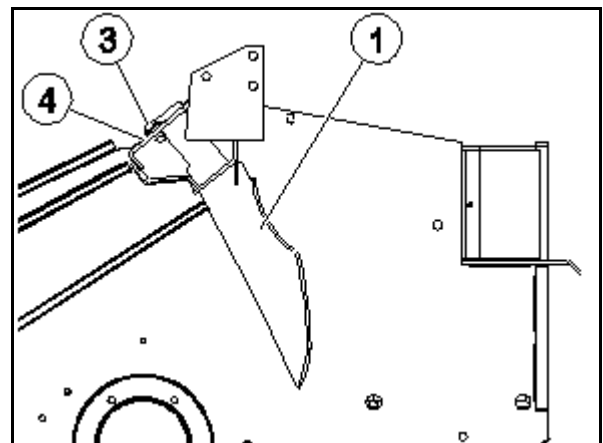

Fig. 142
2. Measure the distance between the strippers (3, Fig. 142/1) and the rotor (2) in the conveyor duct from the cargo space.
- 3.1 Unscrew the screws (Fig. 142/3).